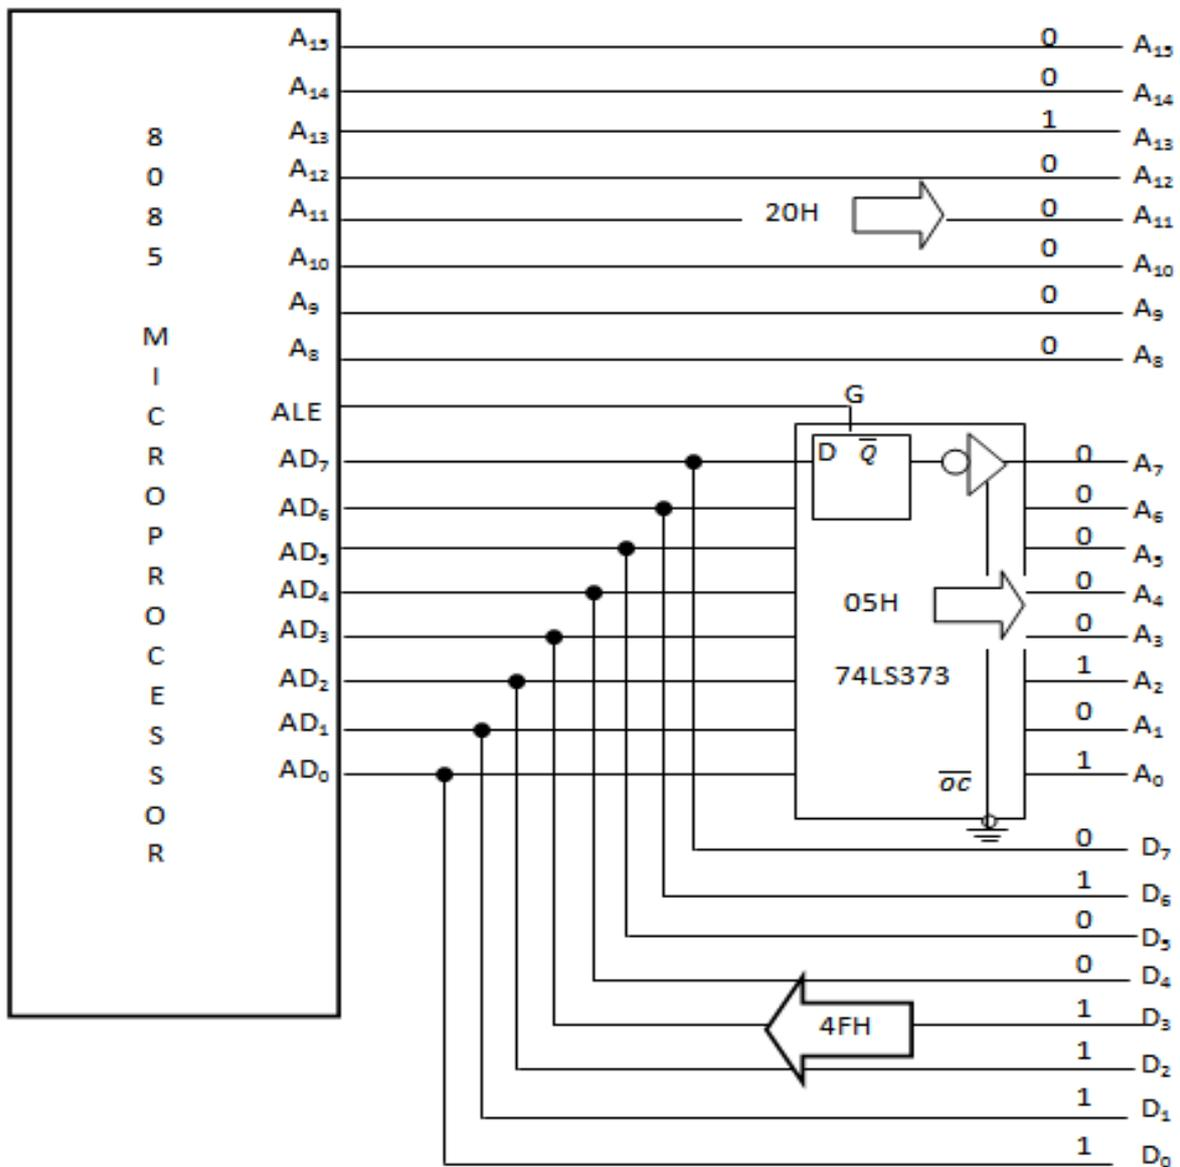

Fig. 1.7 Schematic of Latching Low-Order Address Bus
- ✓ This signal is ANDed with \overline{RD} and \overline{WR} signals by using the 74LS32 quadruple two-input OR gates, as shown in Fig 1.7.